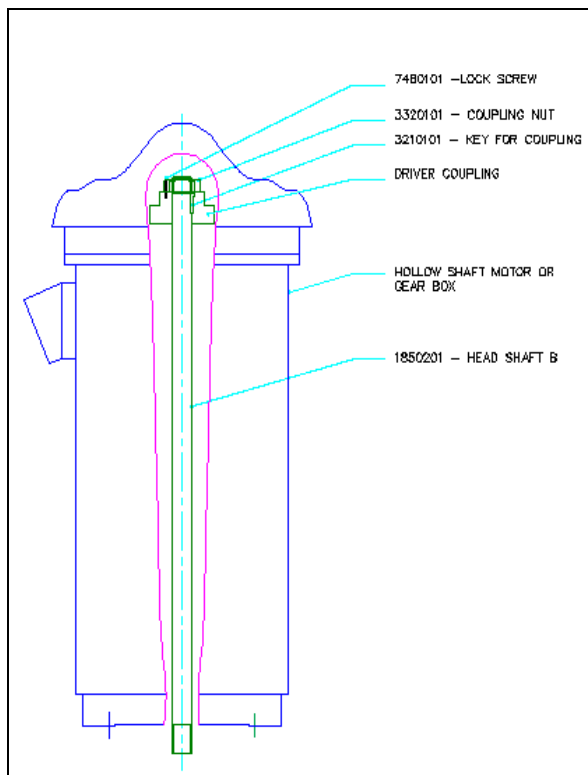

Fig. 8
4. Install the lock screw (7480101) in the top shaft nut **Fig 8**.